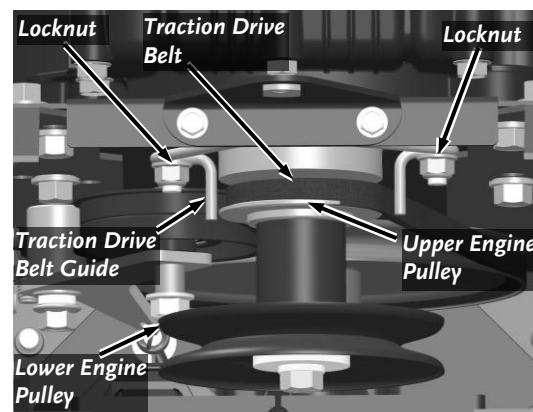

Figure 24
4. Remove the Locknuts and Flat Washers that secure the Traction Drive Belt Guide using a Ratchet with 1/2" Socket and Extension. Remove the Traction Drive Belt Guide (**Figure 24**).
16. Install the Traction drive Belt onto the upper Engine Pulley (Figure 24).